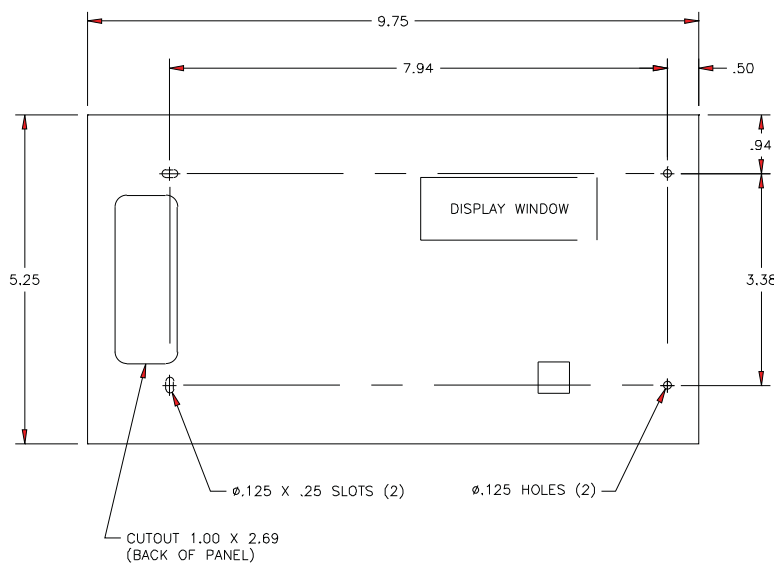

Figure 3.1
- Remove the cover. Place the panel against the wall and mark the location of the mounting holes (see figure 3.1)